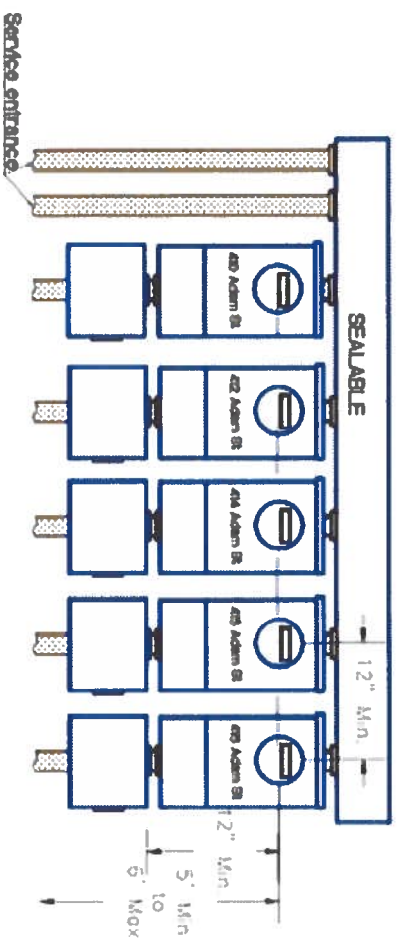

Figure D-3: Multiple meter installations for an office complex
- On non-residential multiple panels (as shown in Figure D-3), the minimum spacing between meter sockets shall be 12 inches horizontally, 12 inches vertically, and the meter will be a minimum of 5 feet and a maximum of 6 feet above the floor or finished grade (see Figure D-1a for clearances).